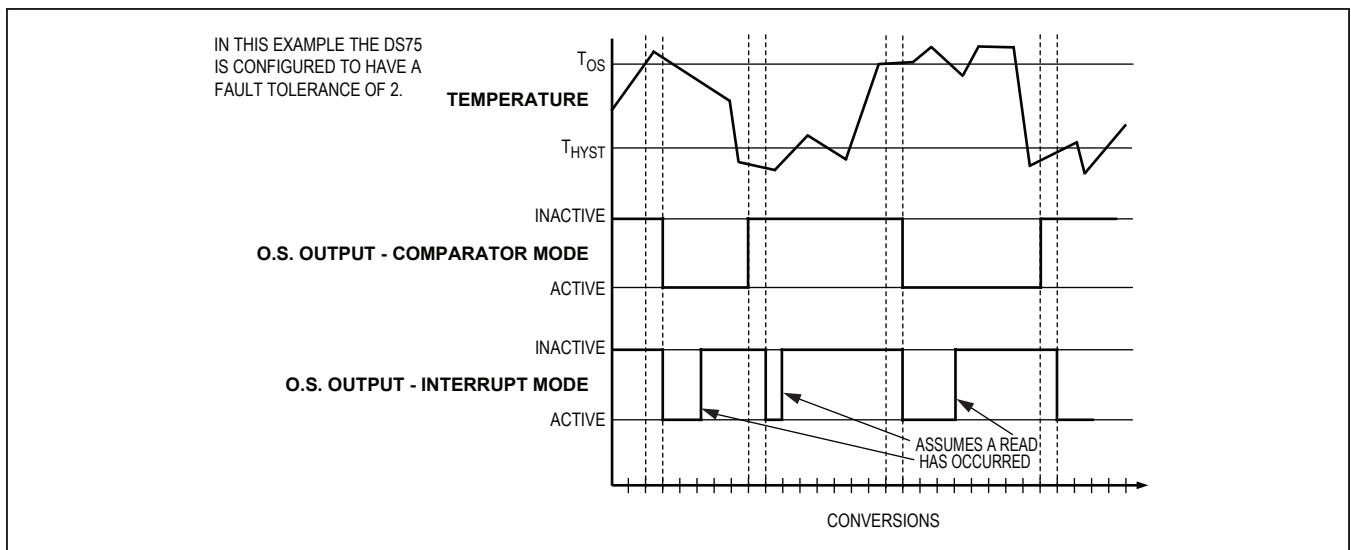

Figure 4. O.S. Output Operation Example
When the thermostat is in comparator mode, O.S. can be programmed to operate with any amount of hysteresis. The O.S. output becomes active when the measured temperature exceeds the T_{OS} value a consecutive number of times as defined by the F1 and F0 fault tolerance (FT) bits in the configuration register. O.S. then stays active until the first time the temperature falls below the value stored in T_{HYST} . Putting the device into shutdown mode does not clear O.S. in comparator mode. Thermostat comparator mode operation with $FT = 2$ is illustrated in Figure 4.
a consecutive number of times equal to the FT value in the configuration register. Once activated, O.S. can only be cleared by either putting the DS75 into shutdown mode or by reading from any register (temperature, configuration, T_{OS} , or T_{HYST}) on the device. Once O.S. has been deactivated, it will only be reactivated when the measured temperature falls below the T_{HYST} value a consecutive number of times equal to the FT value. Again, O.S. can only be cleared by putting the device into shutdown mode or reading any register. Thus, this interrupt/clear process is cyclical between T_{OS} and T_{HYST} events (i.e., T_{OS} , clear, T_{HYST} , clear, T_{OS} , clear, T_{HYST} , clear, etc.). Thermostat interrupt mode operation with $FT = 2$ is illustrated in Figure 4.